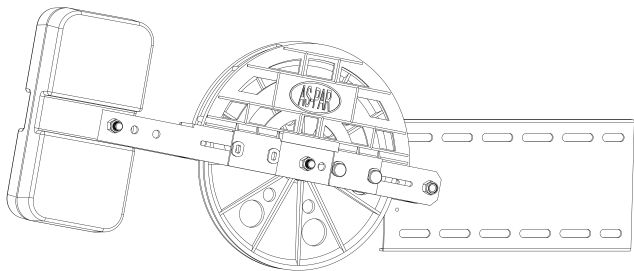

Fig. 24
a. Cut the rope in suitable length for the pit, pass it through the tension pulley's roller. Then connect it to safety gear by using necessary connection parts. As you can see in Figure 24 hang tension pulley approximately 450 mm height from ground. When properly assembled, tension pulley will make an angle of about  $10^{\circ}$  upward. Lastly mount the protection of tension pulley